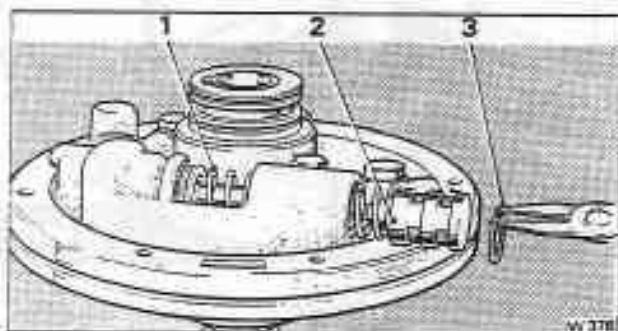

Fig. T17-2 Removing the regulator valve
1. Holding the pump assembly firmly on a bench, push the regulator boost valve sleeve, against spring pressure, then remove the circlip (see fig. T17-2).